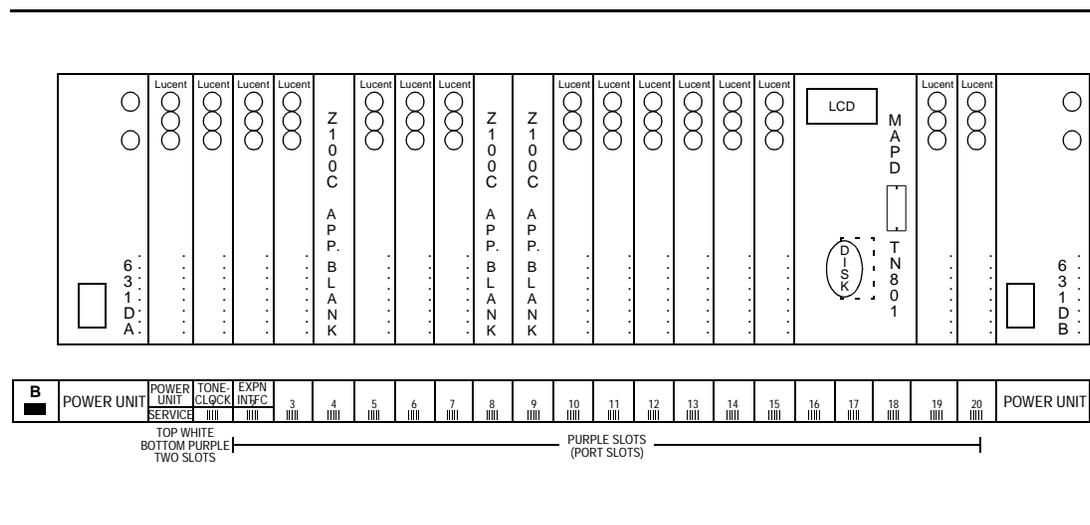

Figure 2-1. MAPD System in a DEFINITY ECS Carrier
- For a MAPD system being installed in an existing switch, three contiguous slots in a switch carrier are required to house the MAPD system (slots 16 to 18 as shown in Figure 2-1 that follows). (See Appendix A “PBX Carrier Configuration Worksheets,” for carrier worksheets.)